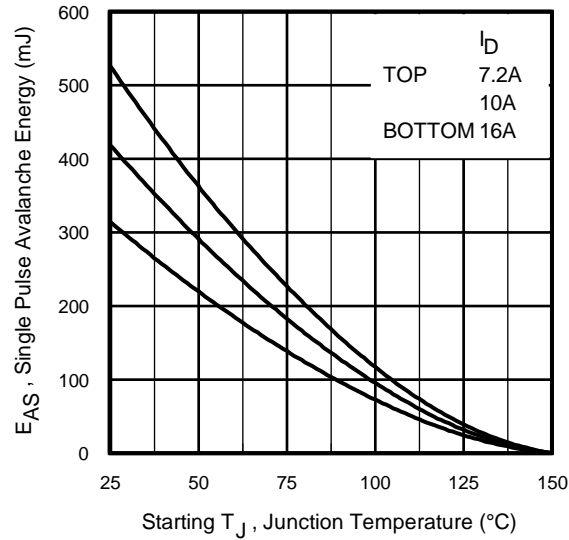

Fig 14a. Maximum Avalanche Energy vs. Drain Current
- ② Starting $T_J = 25^\circ\text{C}$, $L = 2.5\text{mH}$, $R_G = 25\Omega$, $I_{AS} = 16A$. (See Figure 14a)
- ③ $I_{SD} \leq 16A$, $di/dt \leq 650A/\mu s$, $V_{DD} \leq V_{(BR)DSS}$, $T_J \leq 150^\circ\text{C}$.
④ Pulse width $\leq 300\mu s$; duty cycle $\leq 2\%$.
⑤ $C_{oss \text{ eff.}}$ is a fixed capacitance that gives the same charging time as C_{oss} while V_{DS} is rising from 0 to 80% V_{DSS} .